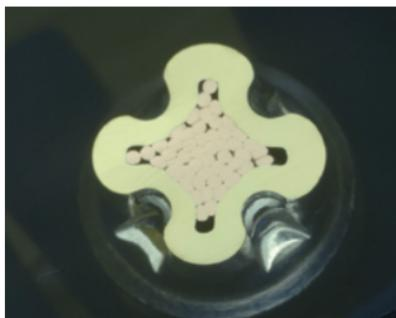

Figure V-4: Micro-section of a defective sample, wire cross-section too small
- Contact under-crimped-larger gaps in the *cross-section* (Figure V-4)